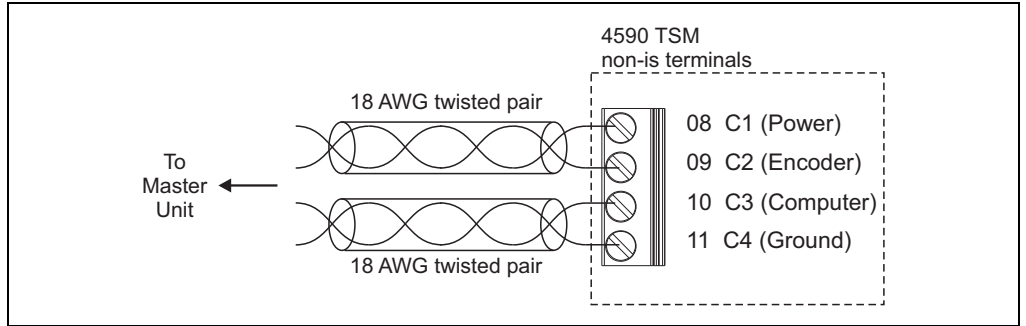

Figure 3-1: Wiring diagram for L&J Protocol
- Connect the units in parallel as shown in Figure 3-1 to avoid crosstalk between the signals.